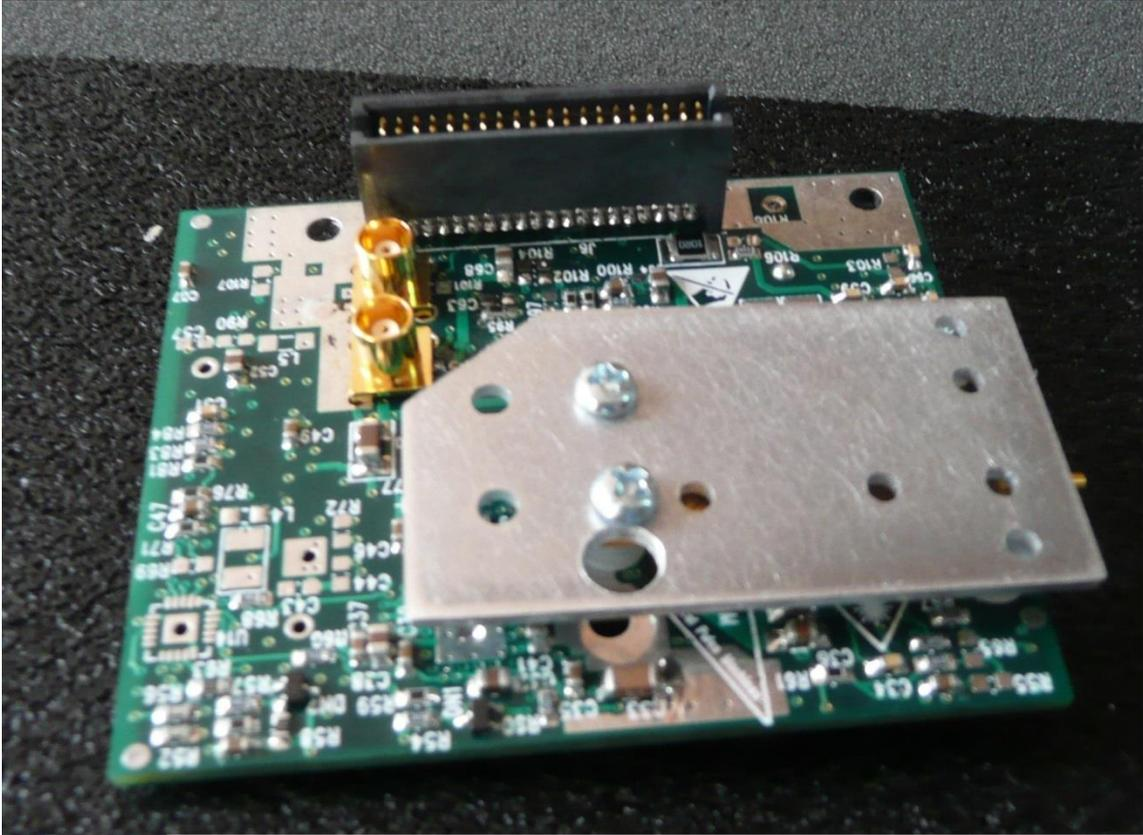

Figure 3
- Put two 12mm screws at the left side holes of the LD so that the screws head come from the heat-sink side. Refer to figure 3.